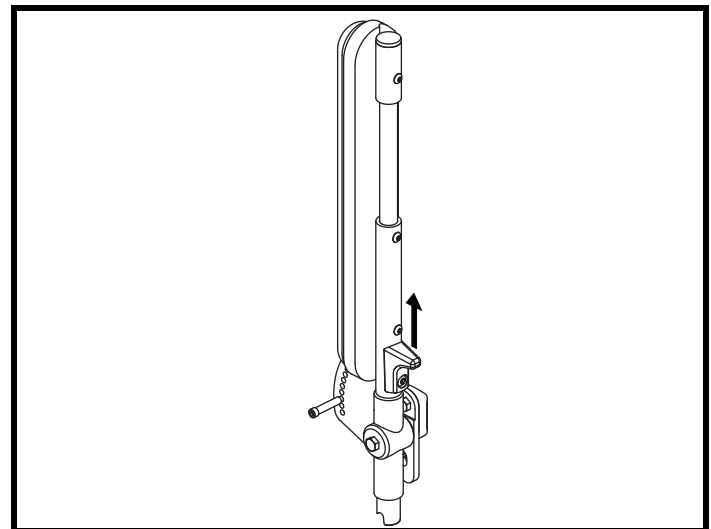

Figure 10. Armrest Latch - Latching Armrests
2. Flip up the armrests. If your wheelchair is equipped with latching armrests, push the armrest latch toward the front of the armrest to disengage the armrest. You will hear a click when the armrest is latched into place. See figure 10.